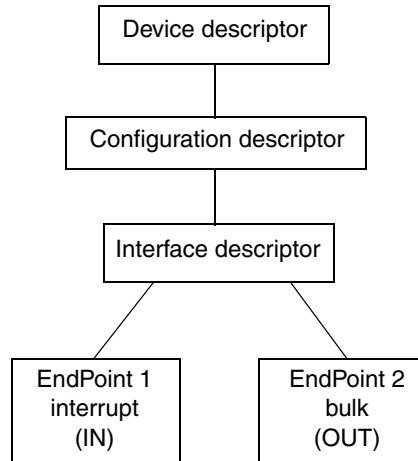

Figure 9. Device Descriptor Map
- USB vendor and product ID — These two variables must be equal to the INF file in Windows. The operating system (OS) associates the device descriptor to a specific PC USB driver. The VID and PID are selected arbitrarily in this application and are not intended to be used for production.
- Number, type, size and direction of endpoints — Depending on your application; number defines the amount of pipes created, type selects from four kinds of endpoints (control, bulk, isochronous, and interrupt), size is the maximum packet length driven by the device, and direction defines if the packets come from or go to a USB host. The project endpoint map is shown in Figure 9.